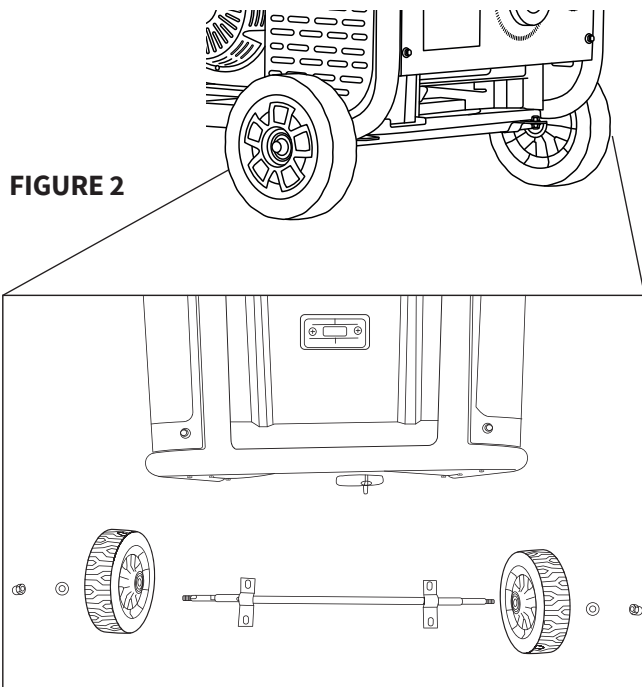

FIGURE 2
4.1.2 Assemble the Wheels(FIGURE 2):